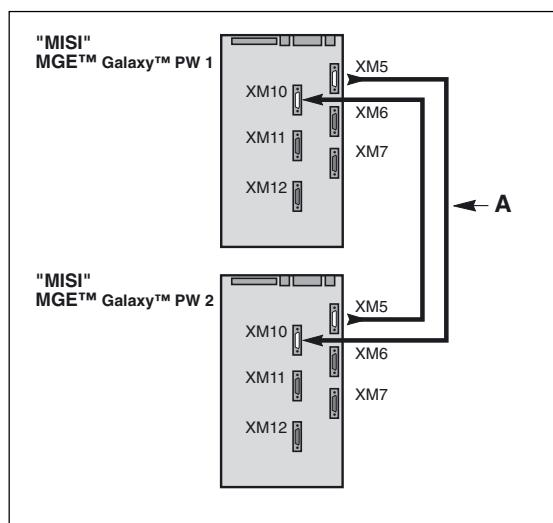

Fig. 28
See figures 28, 29 and 30.
- situation with two parallel UPS units: see figure 28;